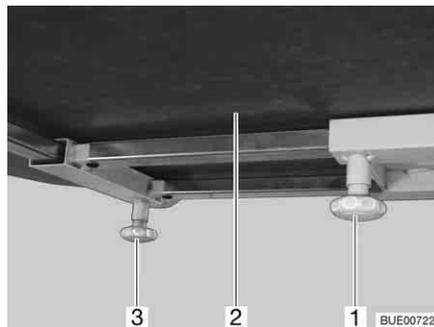

Fig. 120 Moving the table-top (alternative)
- Loosen knurled screw (Fig. 120,1).
- Push the table-top (Fig. 120,2) into the desired position.
- Loosen knurled screw (Fig. 120,3).